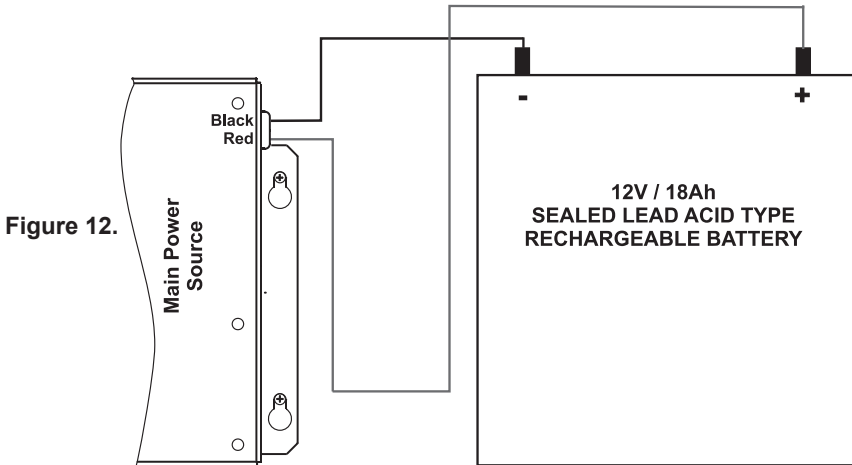

Figure 12.
- Connect the battery to the power unit terminals - Figure 12.